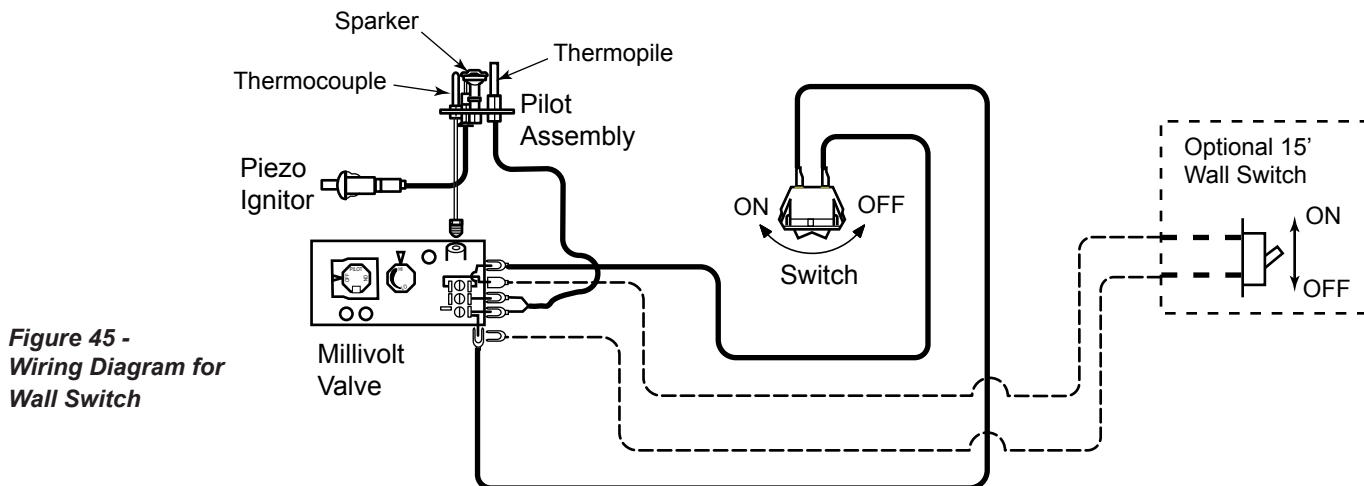

**Figure 45 -
A remote wall switch and up to fifteen (15) feet of 18 Ga. wire may be used with this appliance. Attach the wall switch in a junction box at the desired location on the wall. *Figure 45*. Do not extend beyond the wall switch wire length provided.